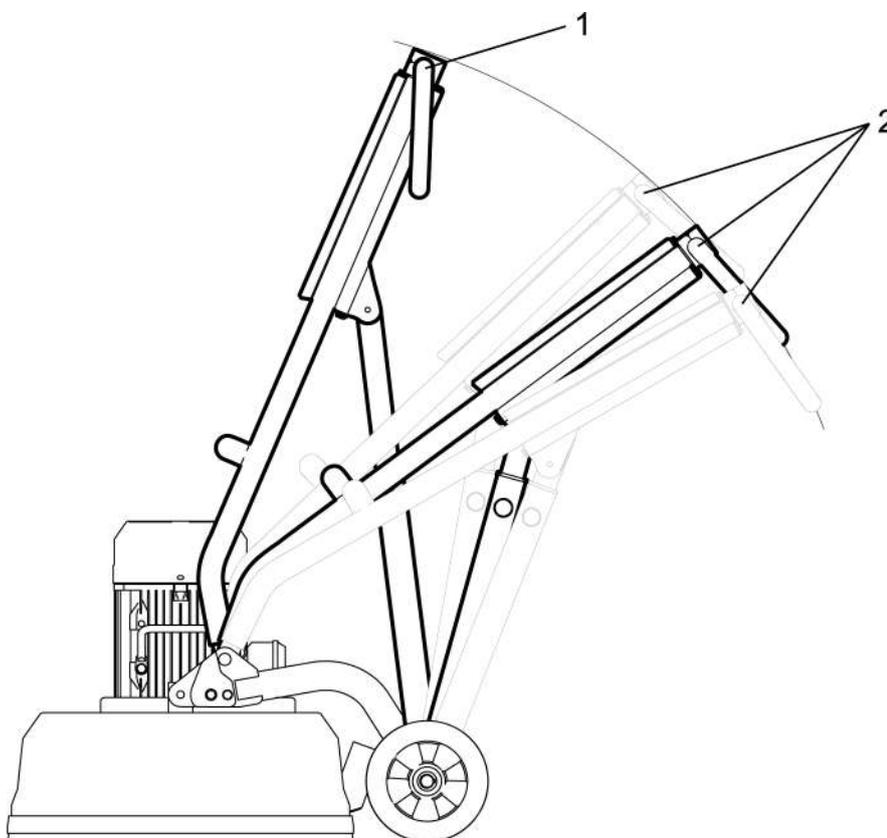

Figure 4-1. Handle settings
1. Set the handle to the upright position - see Figure 4-1, page 14